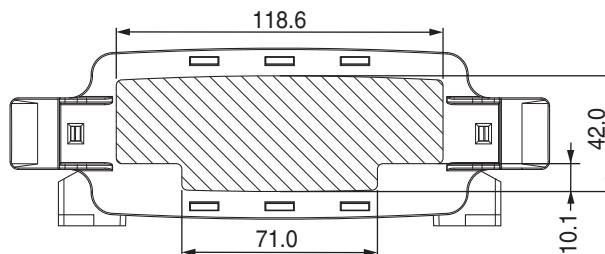

Figure 14 Available connector area for ECS-P...B
The ECS-P...B faceplate allows placement of connectors as desired within a certain area on the faceplate. The placement and number of connectors that can be added to the ECS-P...B (GY) is limited to within the area defined in Figure 14.